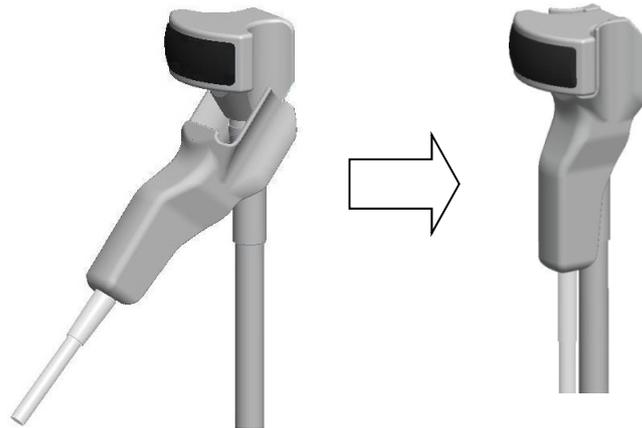

Fig.5 How to attach the Magnetic sensor attachment
b) Attach the Magnetic sensor attachment to the probe as shown in Fig.5.